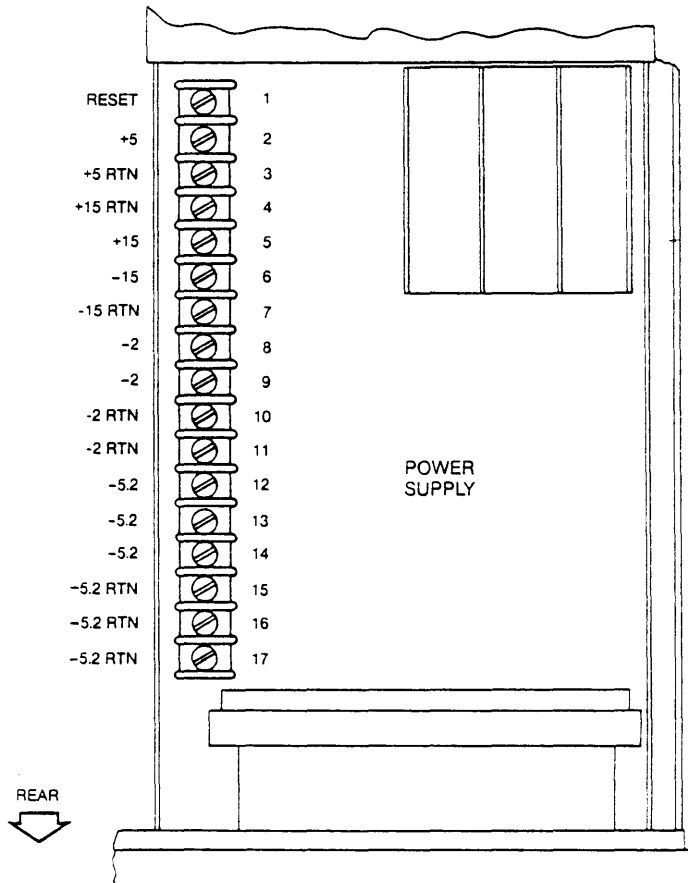

Figure 3-6. Power Supply Voltage Measurements
The user cannot adjust the K450 Power Supply. A voltage measurement check determines if the power supply is functioning properly. If the measured voltages are not within the specified limits, the power supply must be replaced. Voltages are measured at the power supply terminal board locations, as shown in Figure 3-6. The measurement is taken between the specified voltage signal and its respective return.
3. Connect the external DVM reference (-) to the board A GND test point. Connect the DVM (+) input to the right side of resistor R38. See Figure 3-6.